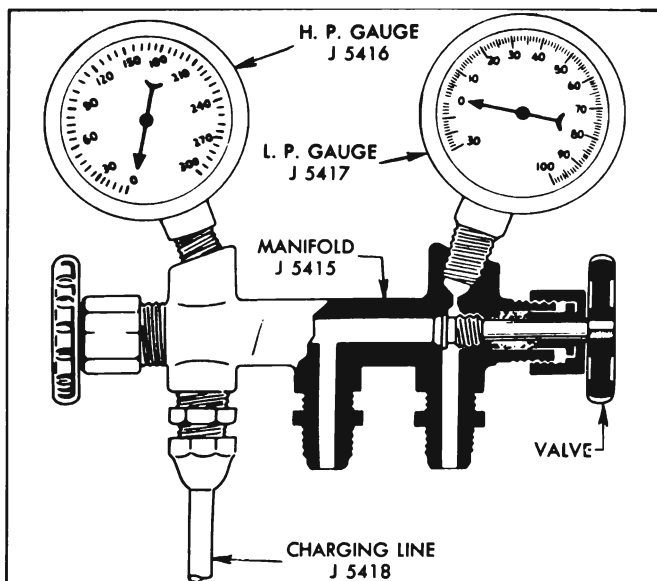

Figure 11-22—Pressure Gauge Set
2. Using adapters J-5420, connect charging lines of pressure gauge set and Manifold J-5415 to schrader valves with both valves of manifold closed. See Figure 11-22.